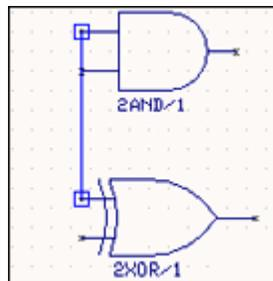

Fig. 4.14
- c. Bring the wire end to the required pin and click and then click on  **End Connection**. The pins as well as the node get highlighted (Refer Fig. 4.14 & 4.15).